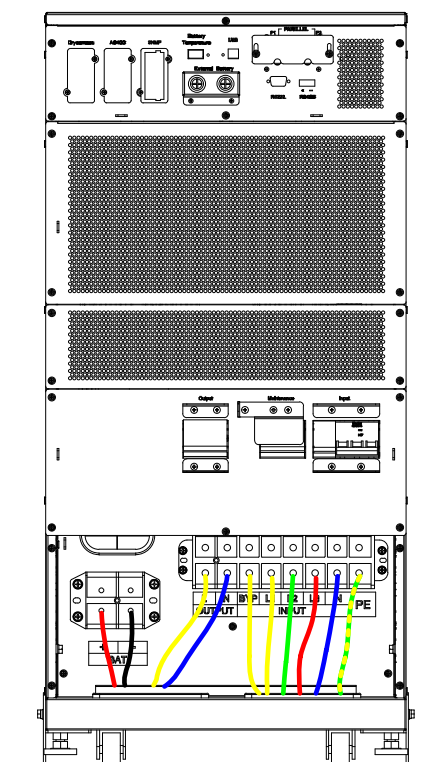

Figure 3-14 Schematic diagram of the cable entry
Step 2 Open the back door of the cabinet, remove the plastic cover. The input and output terminal, battery terminal and protective earth terminal are shown in Figure 3-14;